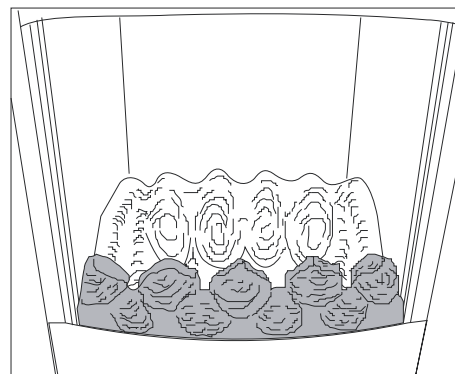

Figure 29
2. Position the front matrix in front of the burner and ensure that it rests on the base (see **Figure 29**).